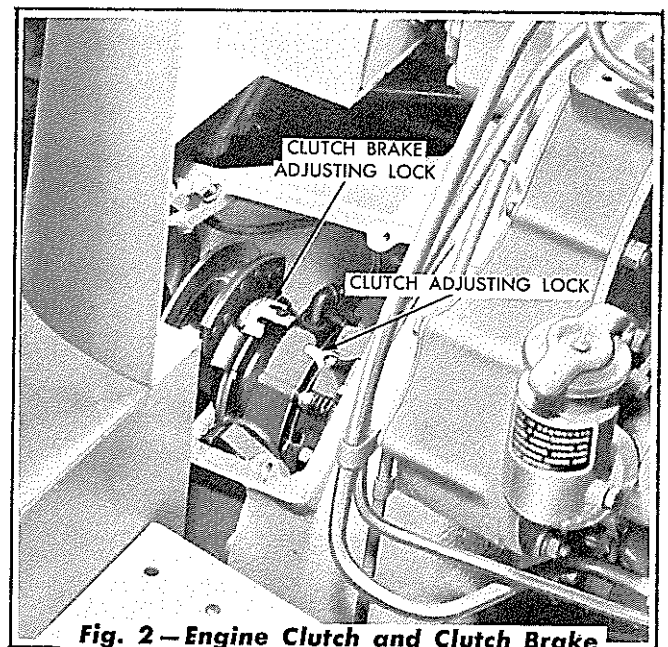

Fig. 2 — Engine Clutch and Clutch Brake Adjusting Locks
gine until the clutch adjusting lock can be reached through the inspection hole (refer to Fig. 2). Disengage the adjusting lock from the slot in the back plate.
2. Turn the notched adjusting ring (refer to Fig. 2) in or out to obtain 1-3/16" clearance between the clutch brake plate facings and the clutch brake disc. *NOTE: It is not necessary to remove the clutch brake adjusting lock when making the adjustment.*